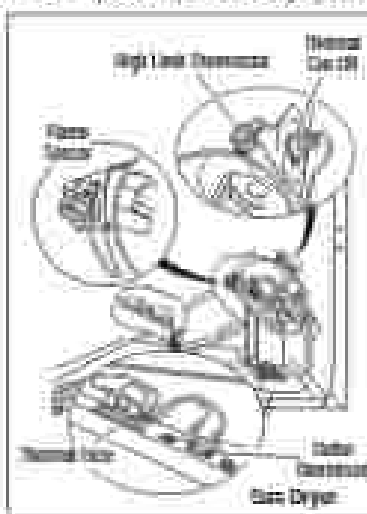

Figure 2 - Thermal components, gas dryer, viewed from front.
5. Locate the high limit thermostat (see Figure 2, page 3-34). Measure the continuity through it by connecting the meter probes to the red and black wire terminals.